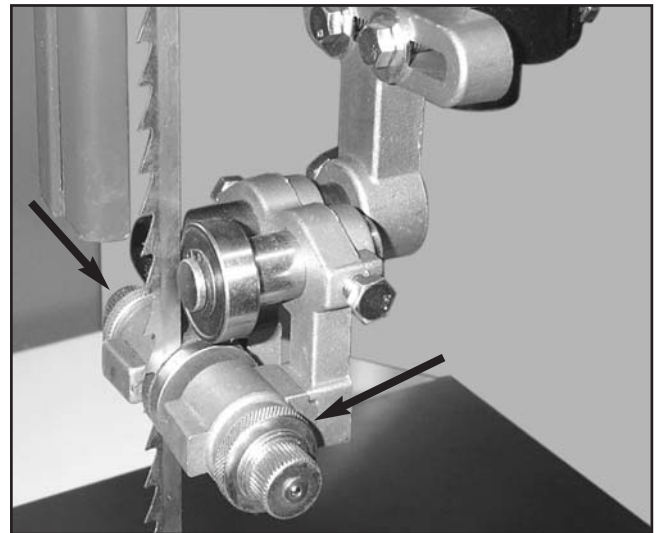

Figure 11. Loosen the jam nuts on both sides of the guide block assembly to release the blade guide adjusting knobs.
1. Loosen the 4 knurled jam nuts (the upper guide assembly is shown in **Figure 11**) that lock the adjusting knob for the guide bearings in place.